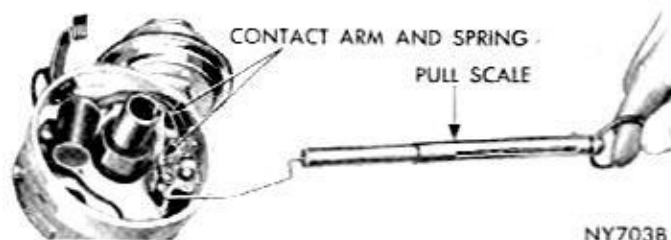

Fig. 7—Testing Contact Arm Tension Spring
(1) Hook a spring scale MTU-36 on contact arm and pull in a straight line at a right angle to the contact surfaces (Fig. 7). Take a reading as contacts start to separate under slow and steady pull of the scale. Spring tension should be 17 to 20 ounces. If reading is outside these limits, loosen the screw which holds the end of contact arm spring, and slide end of spring in or out, as necessary.
(2) Tighten screw and measure spring tension. **Just the right amount of contact spring tension is very important for effective ignition and efficient engine performance.** Spring tension that is too great, will cause excessive wear on distributor cam and on the nylon block of the movable contact arm. Spring tension that is too weak, is unable to keep the contacts in contact with each other when they close. This is particularly true as engine speed is increased, causing high-speed misfiring.